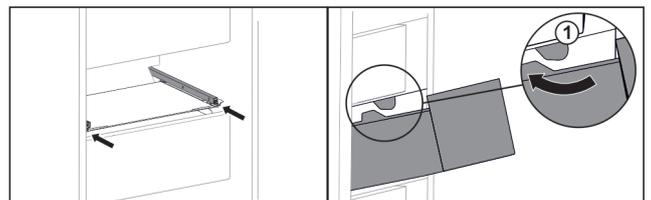

Fig. 31
- ▶ Guide the drawer around the stoppers Fig. 31 (1).*